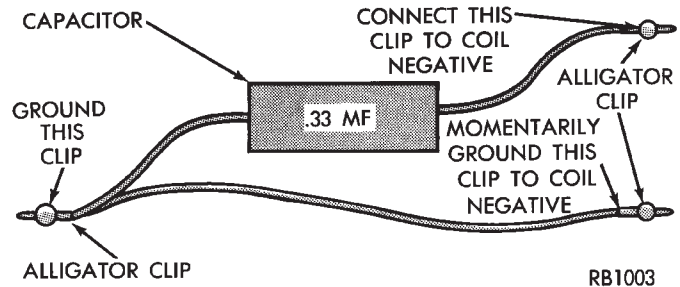

Fig. 14 Special Jumper Ground-to-Coil Negative Terminal
(6) Remove test lead from the coil positive terminal. Connect an 18 gauge jumper wire between the battery positive terminal and the coil positive terminal.
(7) Make the special jumper shown in (Fig. 14). Using the jumper, **momentarily** ground the ignition coil driver circuit at the PCM connector (cavity A-7). For cavity/terminal location of this circuit, refer to Group 8W, Wiring. A spark should be generated at the coil cable when the ground is removed.